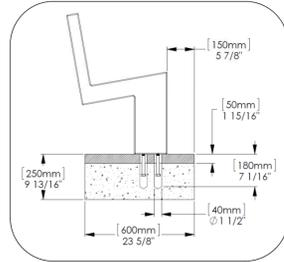

Fig. 2 - Side elevation of footing detail
3. Drill holes according to Fig. 2 and Fig. 3.